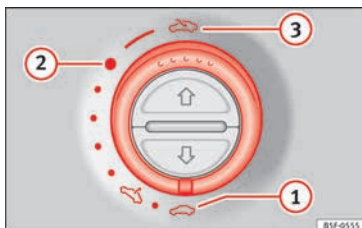

Fig. 13 On the interior roof lining: use the rotary button for opening and closing
- Opening: Turn the switch to position » **Fig. 13** ③.
- Convenience position: Turn the switch to position » **Fig. 13** ②.
- Closing: Turn the switch to position » **Fig. 13** ①.